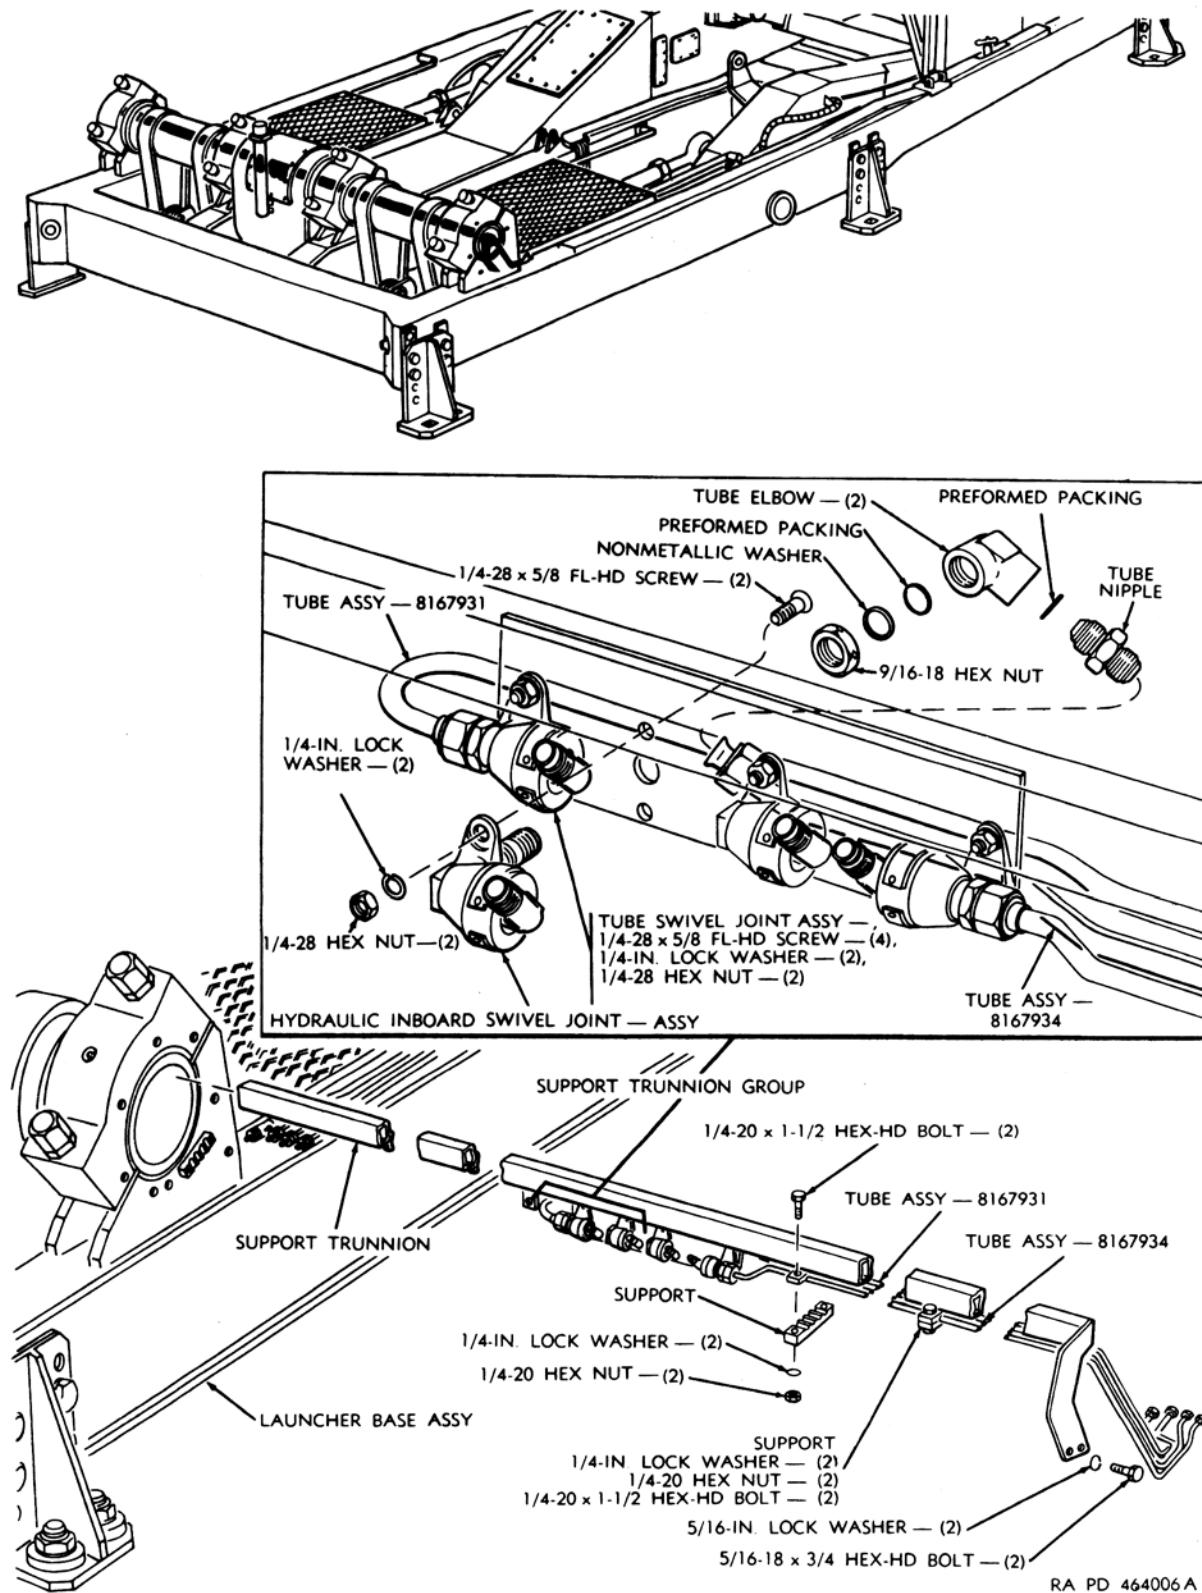

Figure 205. Missile hydraulic system network—removal and installation—continued.
- (8) Remove the support trunnion group as described in paragraph 89e (7) through (11).
- (9) Remove supports (fig. 205), tube nipple, tube elbow, tube assemblies, hydraulic inboard swivel joint assembly and tube swivel joint assembly. Cap all open lines.
- (1) Assemble globe valve assembly.
- (2) Install hydraulic inboard swivel joint assembly (fig. 205) and tube swivel joint assembly on support trunnion.
- (3) Install tube elbow and tube nipple.
- (4) Install tube assemblies and supports.
- (5) Install support trunnion group as described in paragraph 89f (2) through (6).